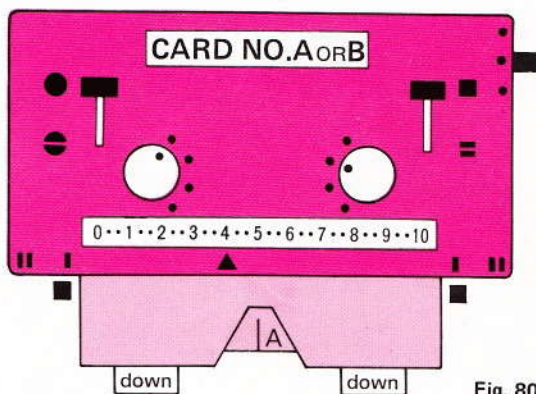

Fig. 80
3. Set carriage as in fig. 80. Tension slide on 4. Still holding removable cord push the carriage from right to left, the needles are selected. Pull cord out.